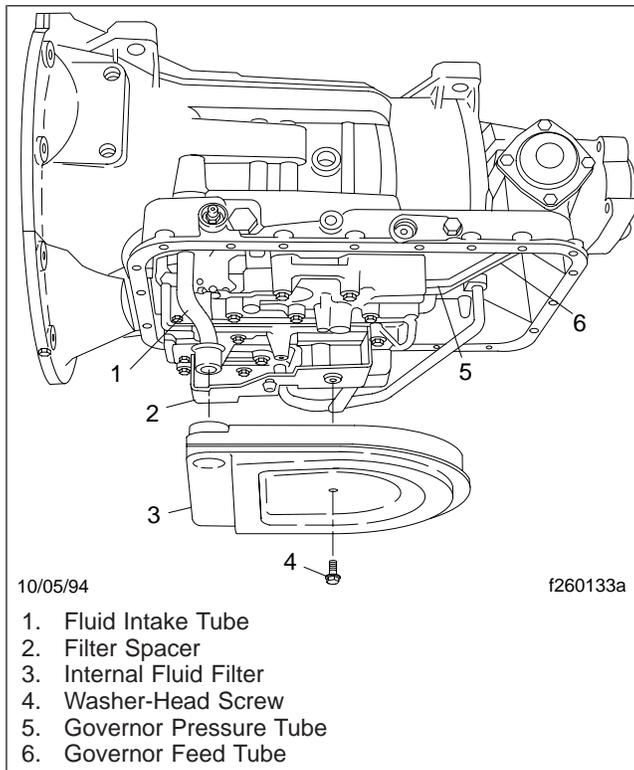

Fig. 5, Allison AT Series Transmission Filter
AT Series (Fig. 5)
7. Remove the washer-head screw that attaches the internal fluid filter to the filter spacer. Remove the filter and the fluid intake tube. See **Fig. 5**. Remove the sealing from the intake tube and discard the sealinging.